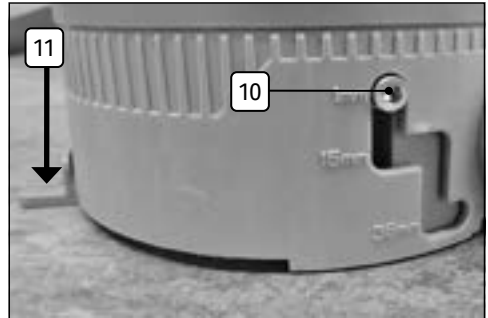
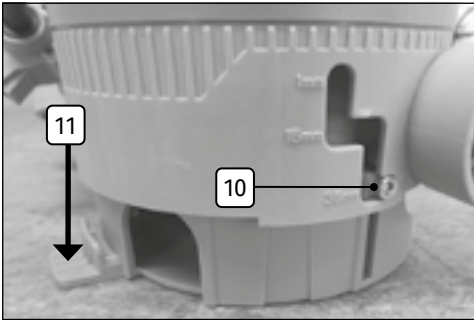

Fig. 4
Fig. 6
6.3 Adjusting the Water Inlet Particle Size (Fig.4 – Fig.6)